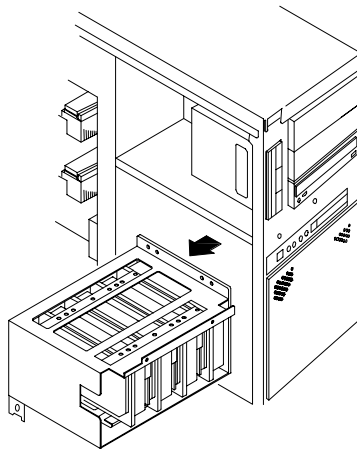

Figure 4-21. Removing the Drive Bay out of the Chassis
9. Remove the drive bay out of the left side of the chassis. See Figure 4-21.